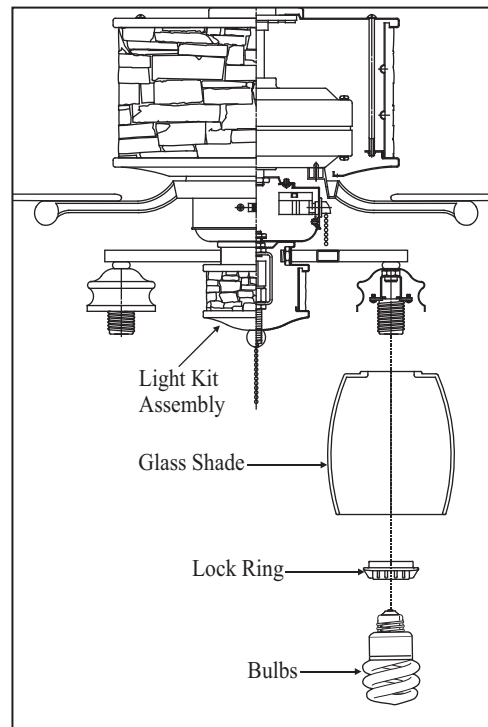

Figure 16
3. Remove the lock ring from the socket by turning the lock ring counter-clockwise Until it unlocks. Insert the glass into the glass holder and turn the lock ring clockwise to tighten the glass. Repeat for the remaining glass. (Fig. 16)